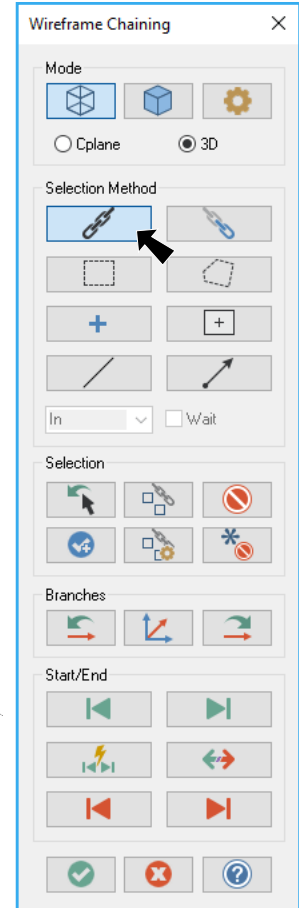

Fig. 16
Step 4. Click **Chain**  (C) in Chaining dialog box, Fig. 16.